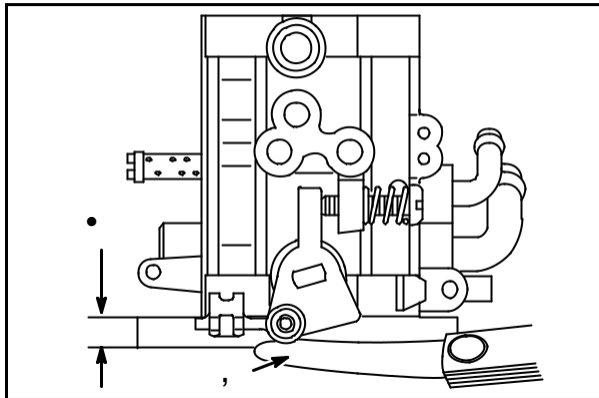

Fig. 58
Lay carburetor on 1/4" (6.35 mm) raised flat surface (1). Check throttle and choke shaft clearance with a feeler gauge (2) as shown in Fig. 58.